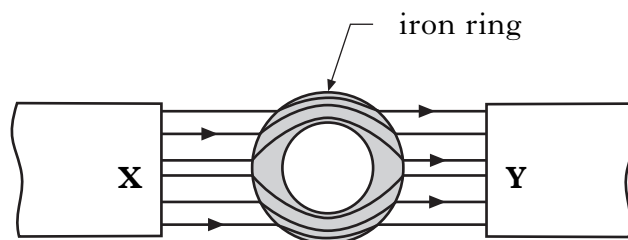

Figure Q3(a)
3. In the diagram Figure Q3(a), shown below, an iron ring has been placed in a magnetic field and the field pattern has been plotted.